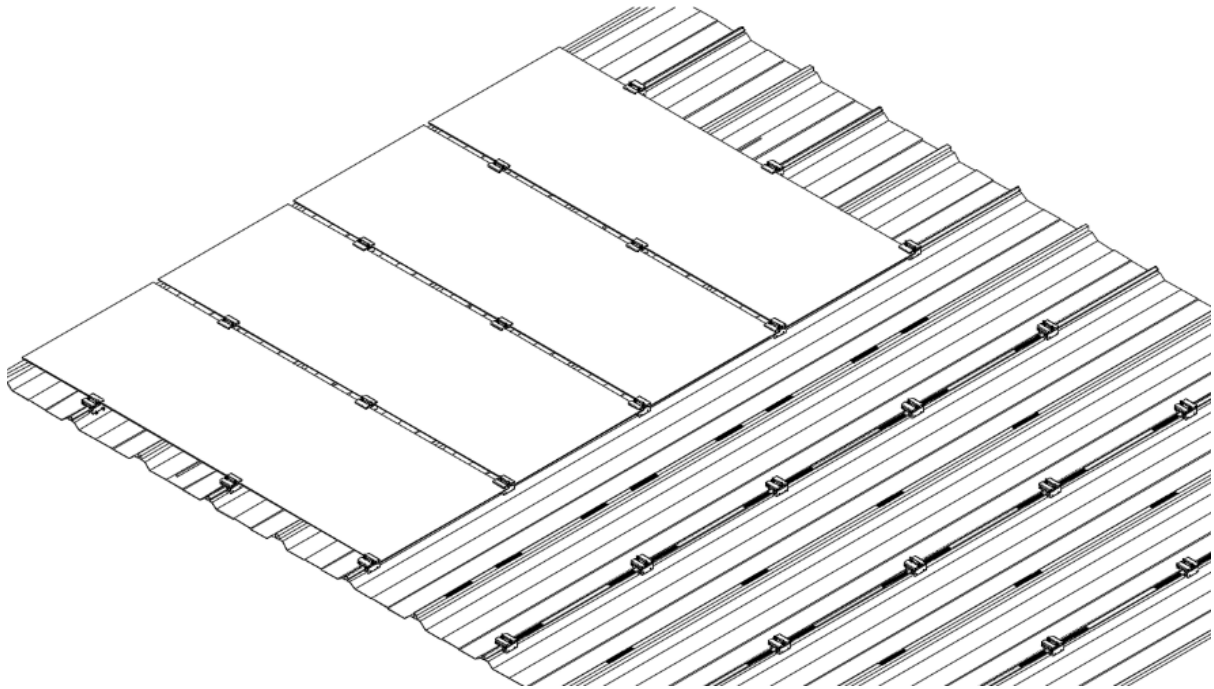

FIGURE 15
⑪ Follow the above installation sequence until all products in the first row have been installed, then tighten the nuts on the last row of clamps to fix the coverboard, so that the first row of products installation is finished (Figure15)